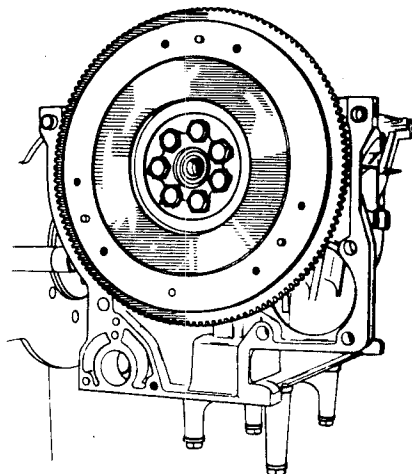

Fig.1.26 Flywheel securing bolts and locking plate
- 2 Bend down the tabs of the securing bolt lockwashers and unscrew each of the seven bolts, Fig.1.26 (photo).